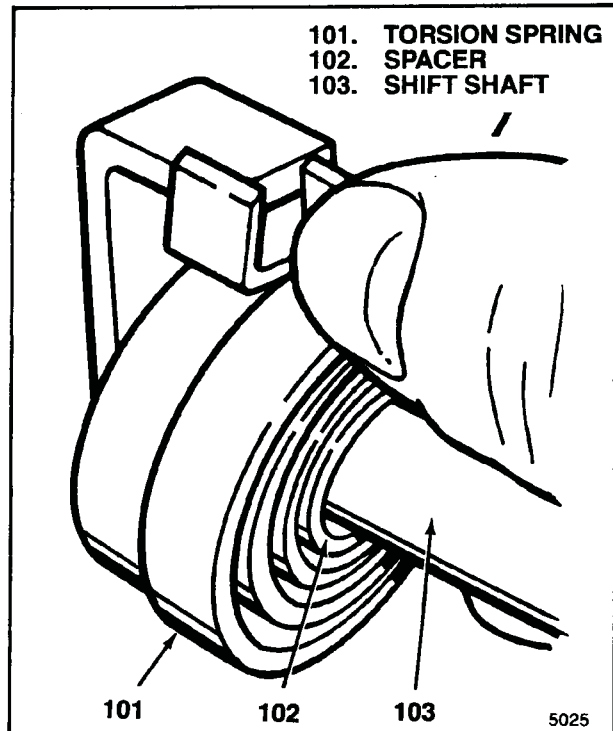

Figure 5-5. Installing Second Spring End
- Twist second spring (101) end to right of drive tang on shift shaft (103) (see figure 5-5).